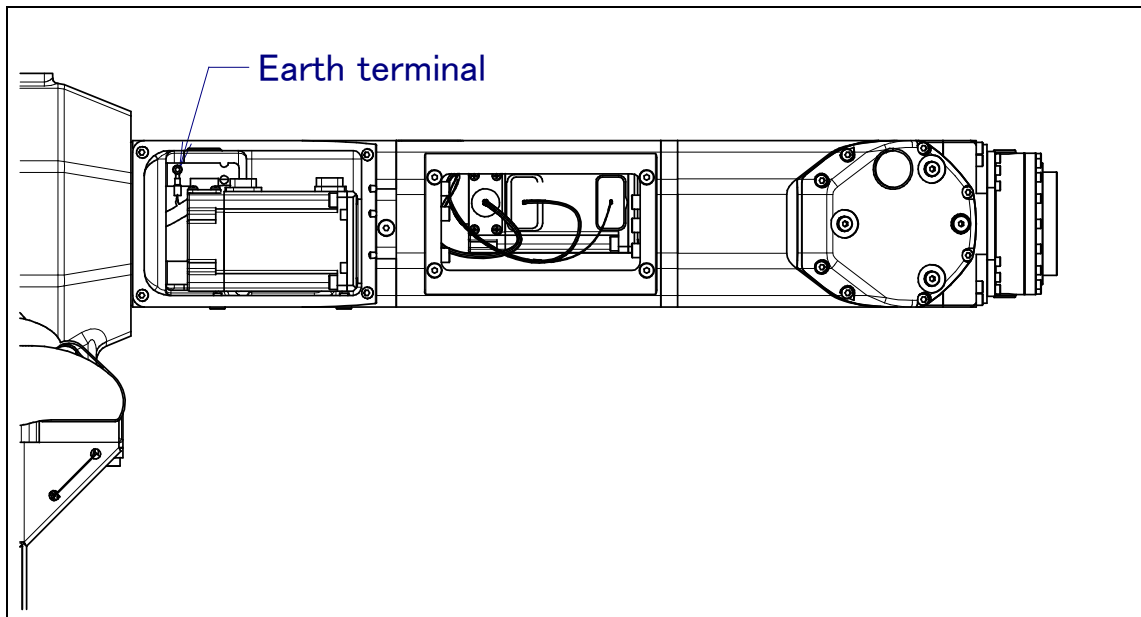

Fig. 8.3 (c) Replacing cable kit (J3 arm part 2)
- 9 Remove bolts M5 x 12 (9 pcs) or M5 x 8 (9 pcs), cover, gasket (A290-7221-X441). (Refer to Fig. 8.3 (d), (e)) (Remove adhesive tape completely.)